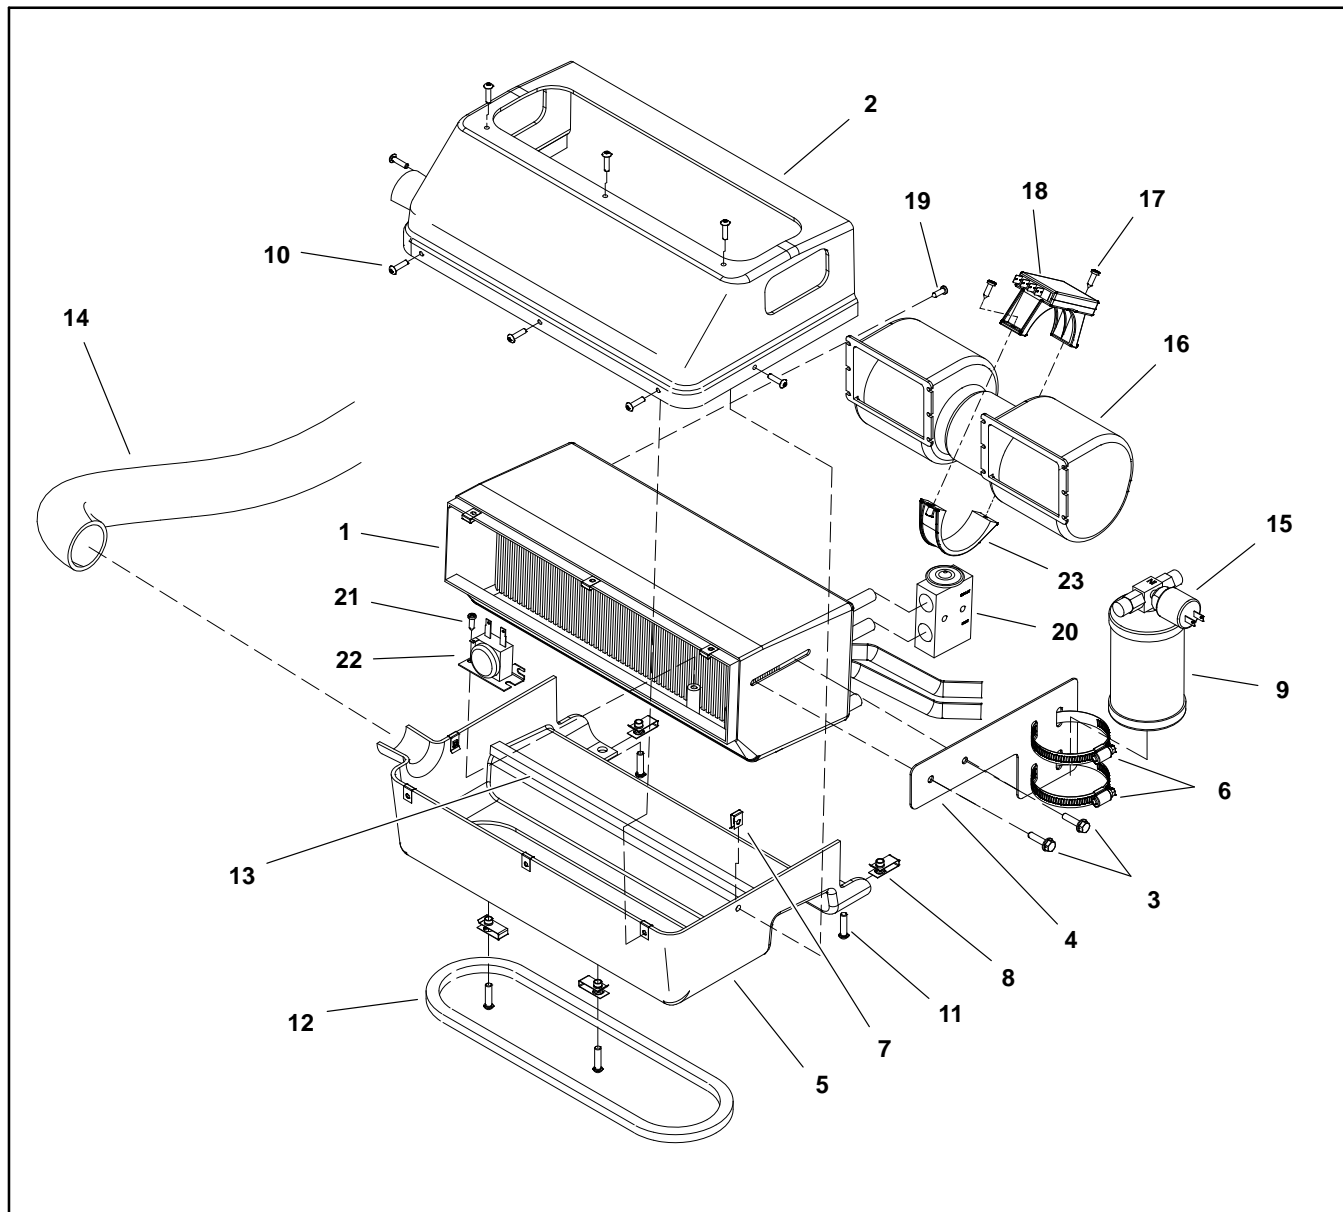

Figure 7
Removal (Fig. 7)
Installation (Fig. 7)
1. Assemble heater/evaporator assembly using Fig. 7 as a guide. Make sure that expansion valve is covered with insulating tape to prevent condensation issues. Also, make sure that evaporator fins are clean for best performance.